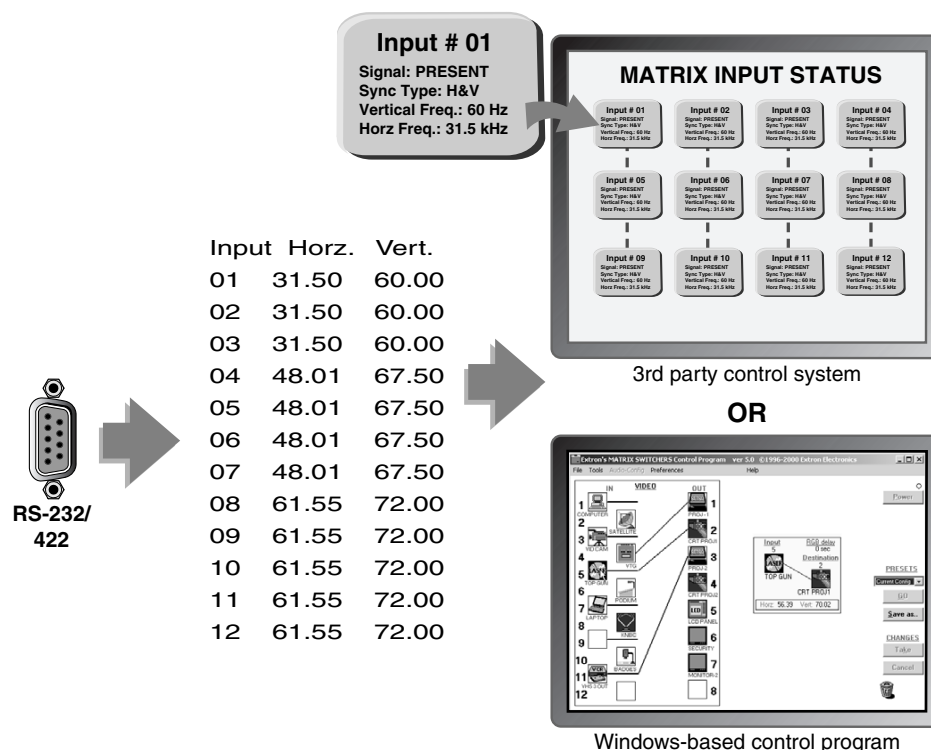

Figure 1-2 — DSVP data display
Digital Sync Validation Processing (DSVP™) — In critical environments or unmanned, remote locations, it is vital to know that sources are active and switching. Extron's exclusive DSVP confirms that input sources are active by scanning all sync inputs for active signals. DSVP provides instantaneous frequency feedback for composite sync or separate horizontal and vertical sync signals via the switcher's RS-232/422 port. The frequency information can be displayed on any control system or in a Windows®-based control program on a local-area network (LAN) or internet (IP) connection (figure 1-2).